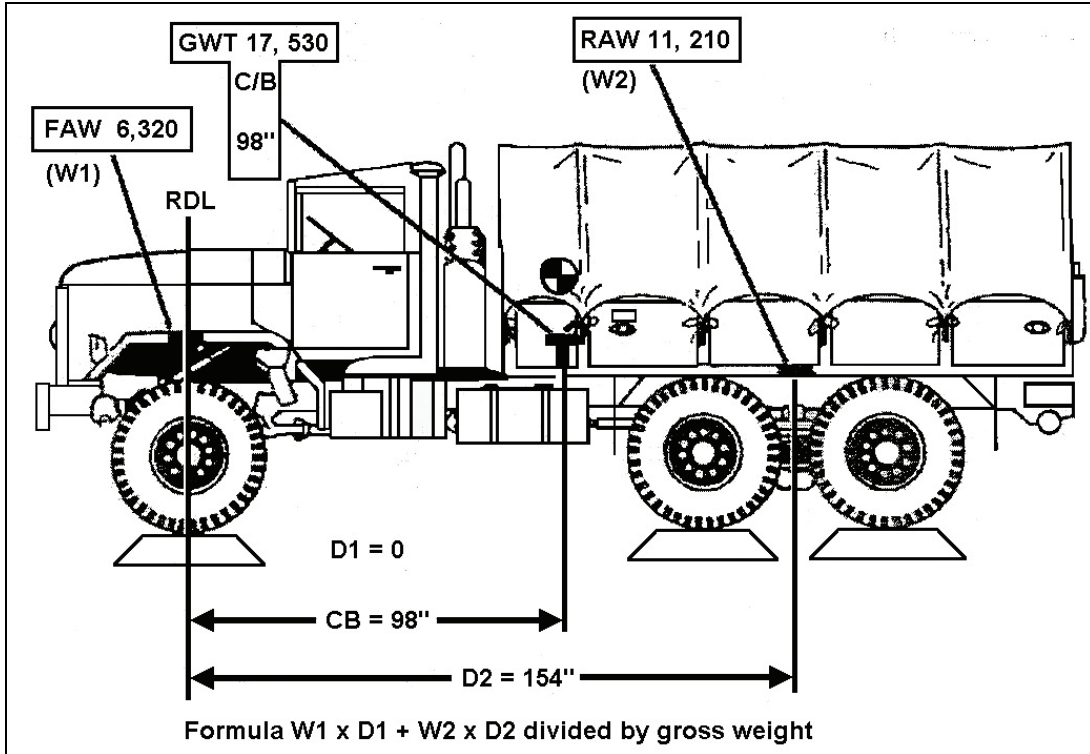

Figure 3-98. Computing CB from RDL (Front Axle) to Tandem Midpoint
- a. For tandem axles with less than 48-inch axle separation, compute center of balance (CB) from RDL (front axle) to tandem midpoint (see Figure 3-98).